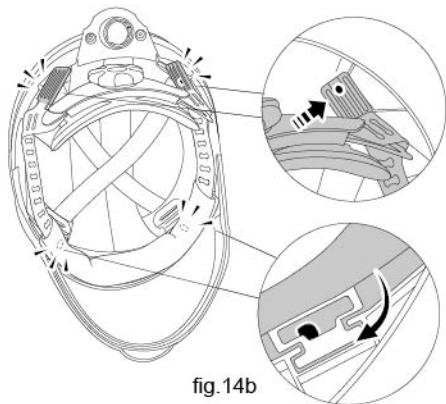

fig.14b
Step 2 : After adjusted, put it back in face shield (4 points adjustable) (See fig.14b). Make sure the headgear is not twisted.